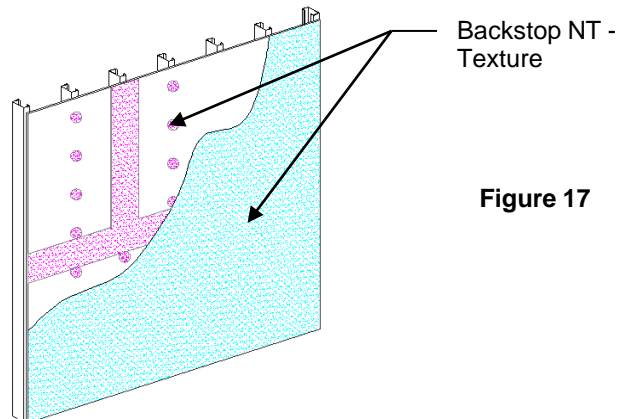

Figure 17
- c) Use a coarse, open-cell foam roller cover with a 3/8 in (10 mm) foam nap (FoamPRO roller #58). Apply a uniform, continuous film of Backstop NT – Texture over the entire surface of the sheathing, concrete or masonry, including the previously treated areas – Figure 17. **NOTE: If the roller pulls material back out of the sheathing joints, it indicates that the joint material is not sufficiently dry.**